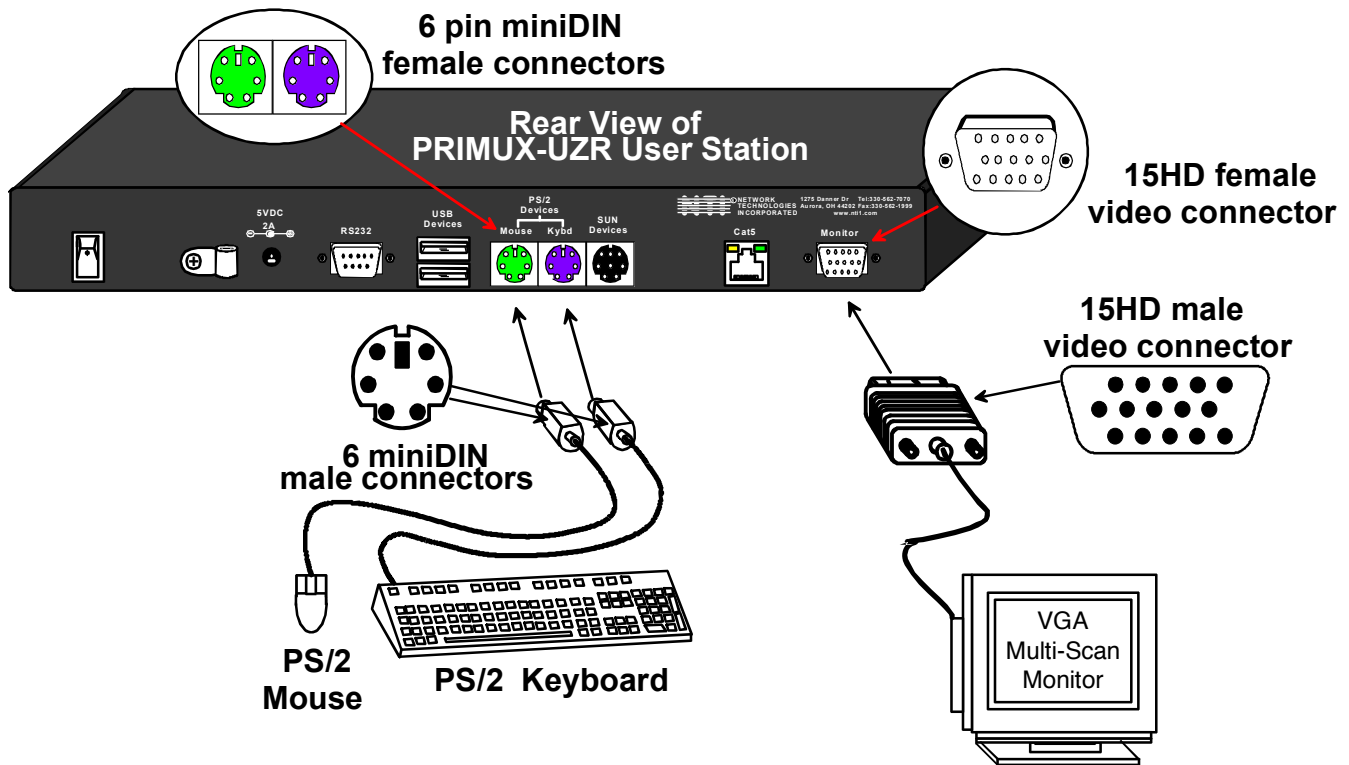

Figure 6- Connect the Extended PS/2 components to the User Station
3. Connect the PS/2 device(s) to the User Station (see Figure 6).